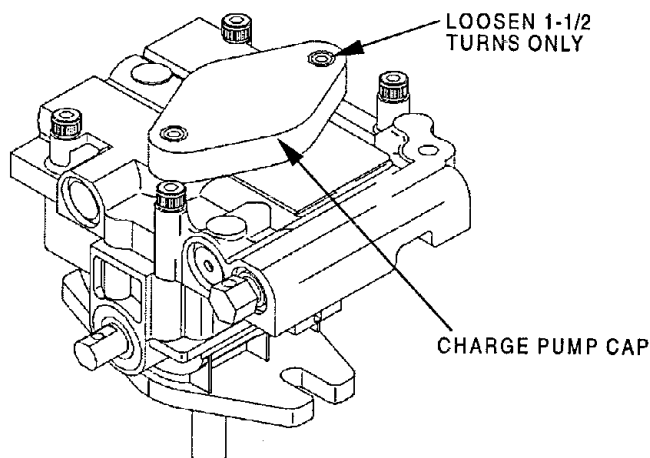

FIG. 6
- g) If either drive wheel does not rotate, one or both of the charge pumps (located on the top of the main pump as shown in Figure 6) may have lost their "prime" . Refer to Section 5.1.10.
The critical area for purging air from the hydraulic system is between the oil reservoir and each charge pump located on the top of each variable displacement pump. (See Figure 6).
- e) To "prime" charge pump, loosen two hex socket head capscrews (shown in Figure 6) **1-1/2 turns only. Make sure engine is not running.** Lift the charge pump housing upward and wait for a steady flow of oil to flow out from under the housing. Retighten the capscrews. Do this for both pumps.